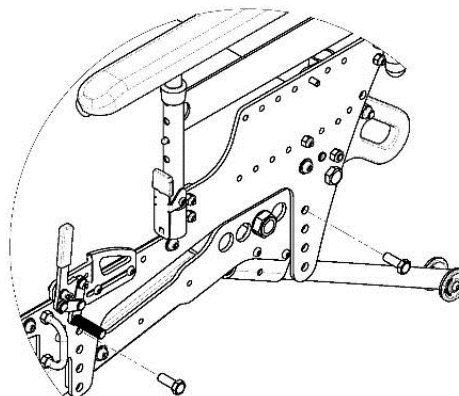

Fig. 18: Seat Height Adjustment - Fastener installation.
1. Remove the bolts and nuts joining the upper and lower frame as shown in Figure 18 using two 9/16" wrenches or sockets.